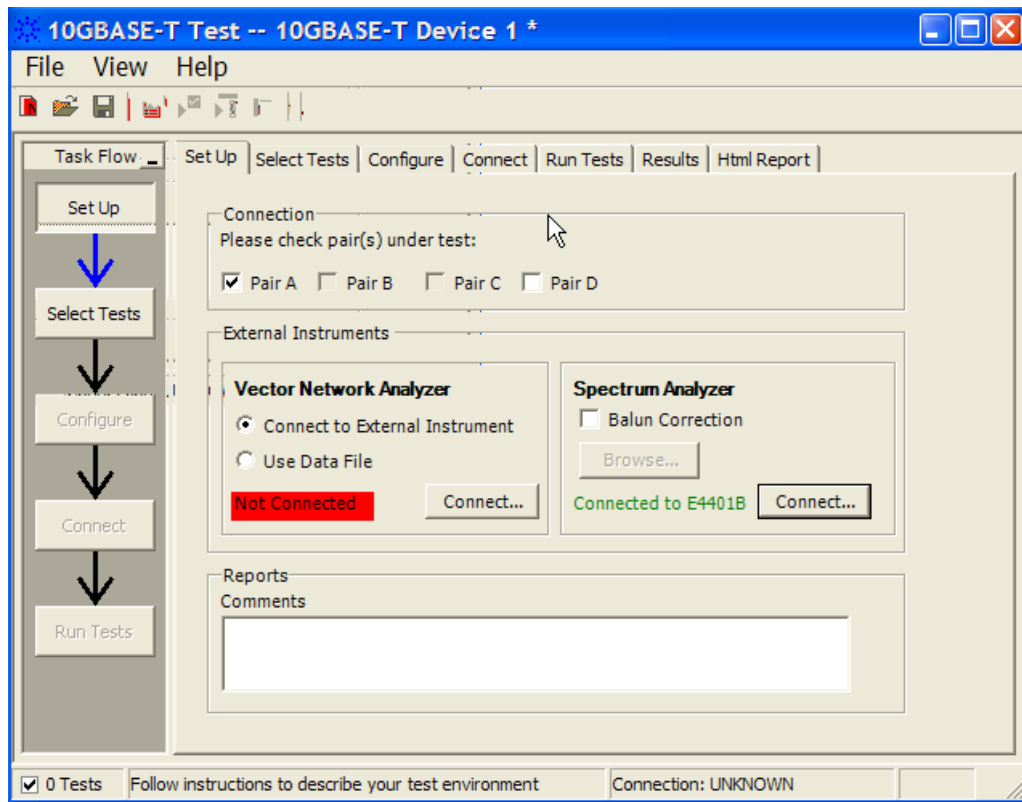

Figure 27 Setup page after application has detected the spectrum analyzer
- 9 Once the application detects the spectrum analyzer, it is indicated on the Setup page as shown in Figure 27 below.